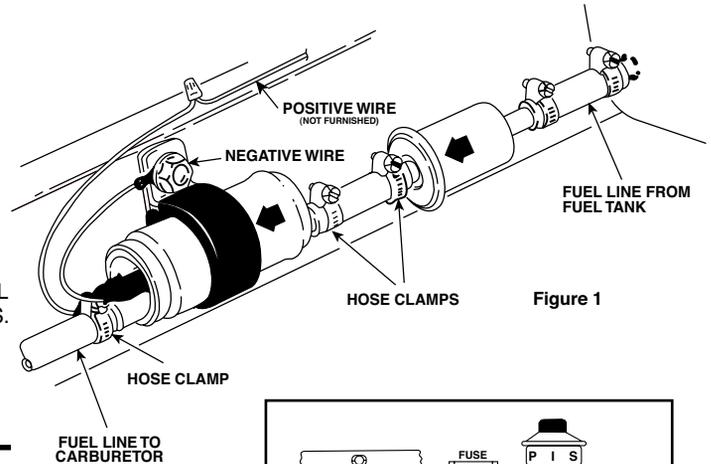

Figure 1
3. Select mounting location on the frame or other firm body member no more than 24" above the bottom of the fuel tank, away from all moving parts, exhaust system, and excessive road splash. Do not mount the pump in the trunk. It is imperative that a good quality in-line filter be used on the inlet side of the pump (between the fuel tank and the pump). (See Figure 1.) A new filter is supplied with this pump.